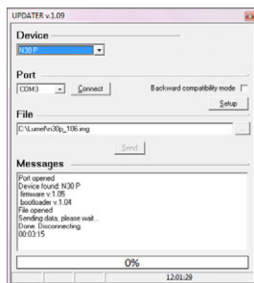

Fig. 13. The view of program window: a) LPCon,
After LPCon has been started, one ought to set serial port, baud rate, mode and the transducer address in *Options*. Then choose the N30H meter from the menu *Devices* and click the icon *Read* in order to read all set parameters (necessary for their later restoration). After selecting from the menu *Updating* the option *Device software updating*, the Updater (LU) window opens – Fig. 13 b. Press *Connect*. The information window *Messages* contains information on the updating process. At the correctly opened port, the message *Port opened* displays.